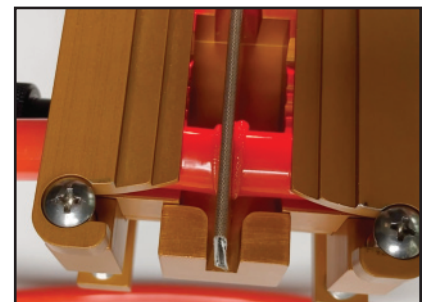

Figure 3
8. Allow the heater blade to melt the belt until the desired bead forms (see Figure 3). (1 to 1.5 minutes for 3/8" or 9.5mm belting)